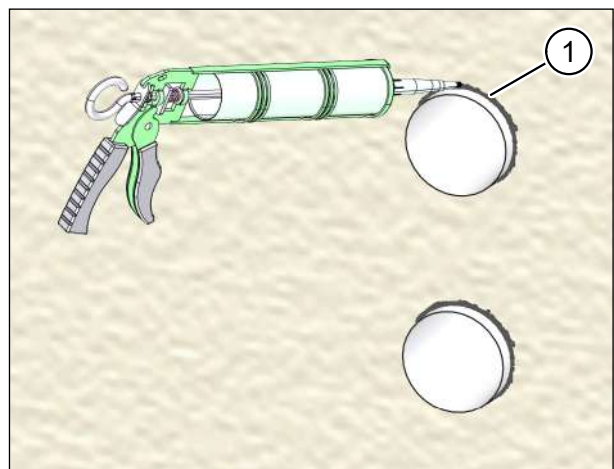

Fig. 30: Sealing ventilation pipes on the external wall
- ▶ Chamfer both pipe breakthrough edges (item 1 in Fig. 30) to roughly 5 x 45° to create enough space for the sealing joints with permanently elastic sealant.